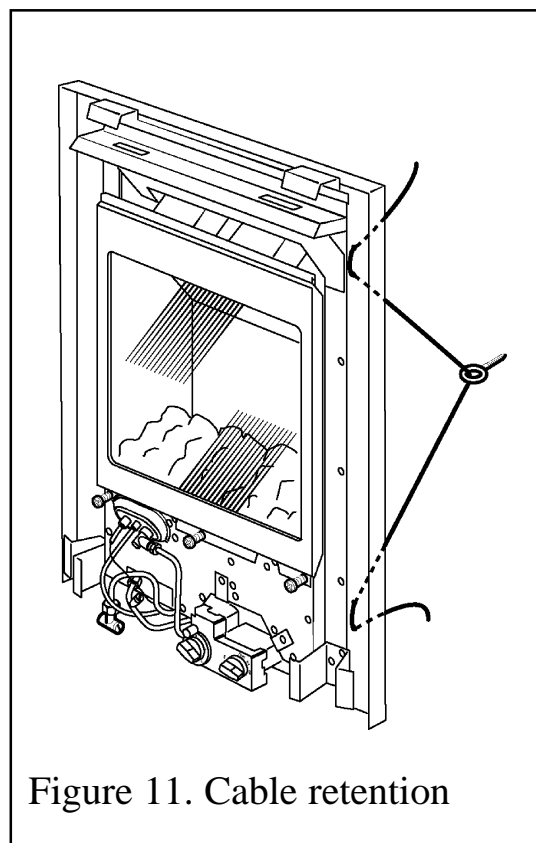

Figure 11. Cable retention
- Thread the two tension cables through the appliance case side holes as shown in figure 11.
- Cable retention: Fit the eyebolts onto the cables. Thread the cables through the appliance case sides as shown in figure 11. Offer the fire complete with flue unit through the wall. Pull the cables taut.